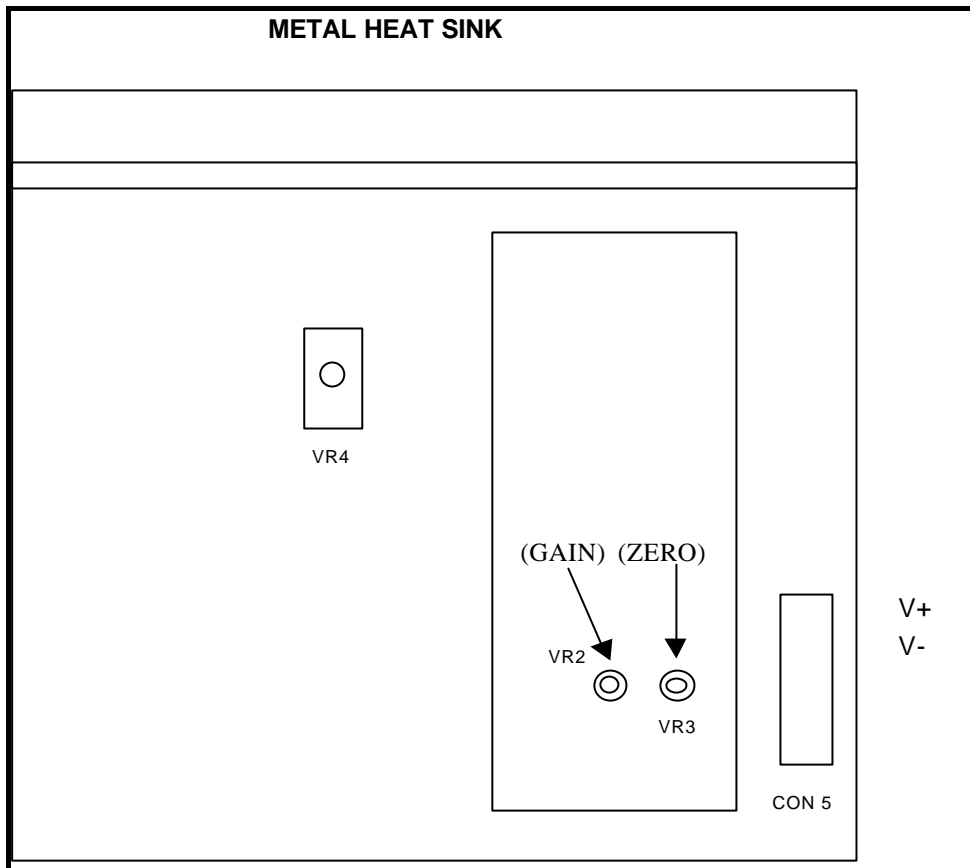

Figure 1: *Layout of components at bottom right of Standard circuit board*
2. Remove the six screws holding on the top-plate then gently lift the front edge of the top-plate by about 150mm so that access can be gained to VR4, VR3, VR2 and CON5, on the main board directly beneath the control panel. Note: VR2 and VR3 are beneath the screening plate, see figure 1 below. On later versions of the controller the metal plate has holes in place for access to VR2 and VR3 and a label indicating the positions of these potentiometers.
3. Remove the six screws holding on the top-plate then gently lift the front edge of the top-plate by about 150mm so that access can be gained to VR4, VR3, VR2 and CON5, on the main board directly beneath the control panel. Note: VR2 and VR3 are beneath the screening plate, see figure 1 below. On later versions of the controller the metal plate has holes in place for access to VR2 and VR3 and a label indicating the positions of these potentiometers.